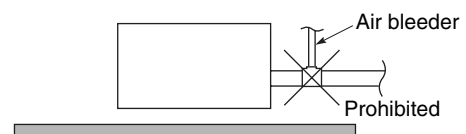

Fig. 3-78
- Do not install the pipe with an upward gradient from the connection port. This will cause the drain water to flow backward and leak when the unit is not operating. (Fig. 3-78)